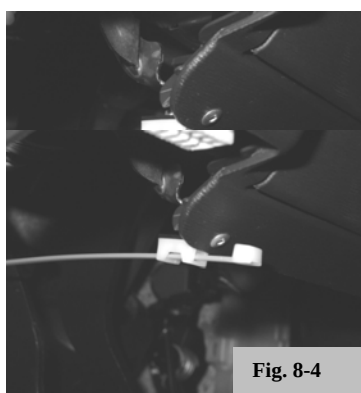

Fig. 8-4
- (1) Feed the wire ties into the plastic mounts from rear to front, orienting the wire tie "head" towards the front of the cover. (Fig. 8-4)
- (2) Be sure the wire tie goes through both "loops" of the plastic mount.
- (3) Do not fully tighten at this point.
- (4) Install the L/G assemblies into the mounts. The L/G assemblies should be oriented with the white "reflector" at the top, the L/M positioned toward the center